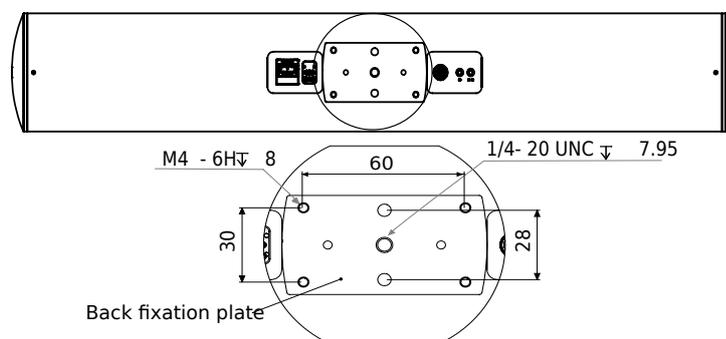

Figure 5.1: The fusionTrack screws fixation.
Firm mounting can be achieved by using either four (4) M4 screws (max depth 8 mm) or one (1) NC 1/4"-20 screw. More explanations are provided on Figure 5.1